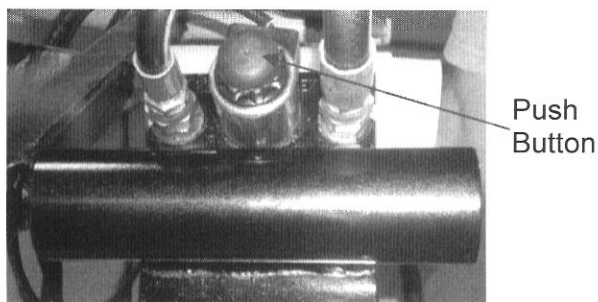

Figure 5-4. Push "Button" Lowering Valve
- Press (push) in and hold the emergency lowering valve "button" on the lift cylinder to relieve all hydraulic pressure to the cylinder. Refer to Figure 5-4.